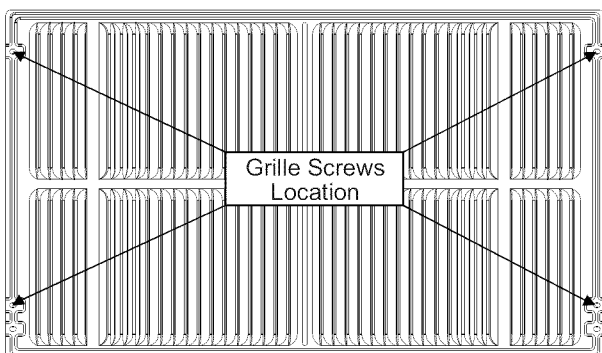

Fig. 2
4. If the unit has not been pre-drilled (some models), carefully drill 4 – 1/8" holes through the grille and into the side flange of the unit approximately 1 1/2" to 2" from the top and bottom as in Fig. 2, 3 .